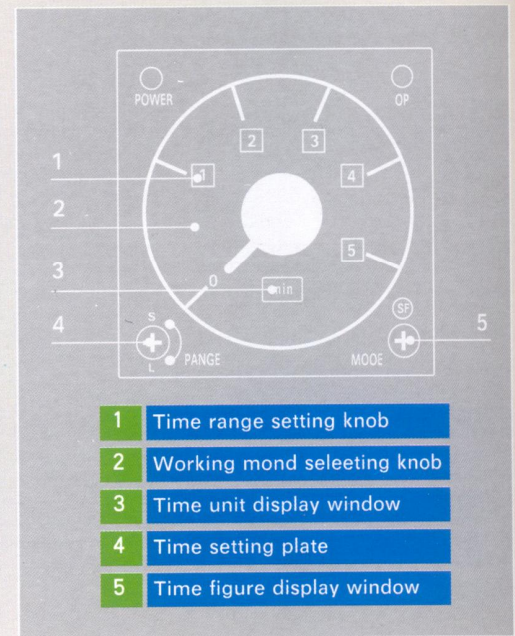
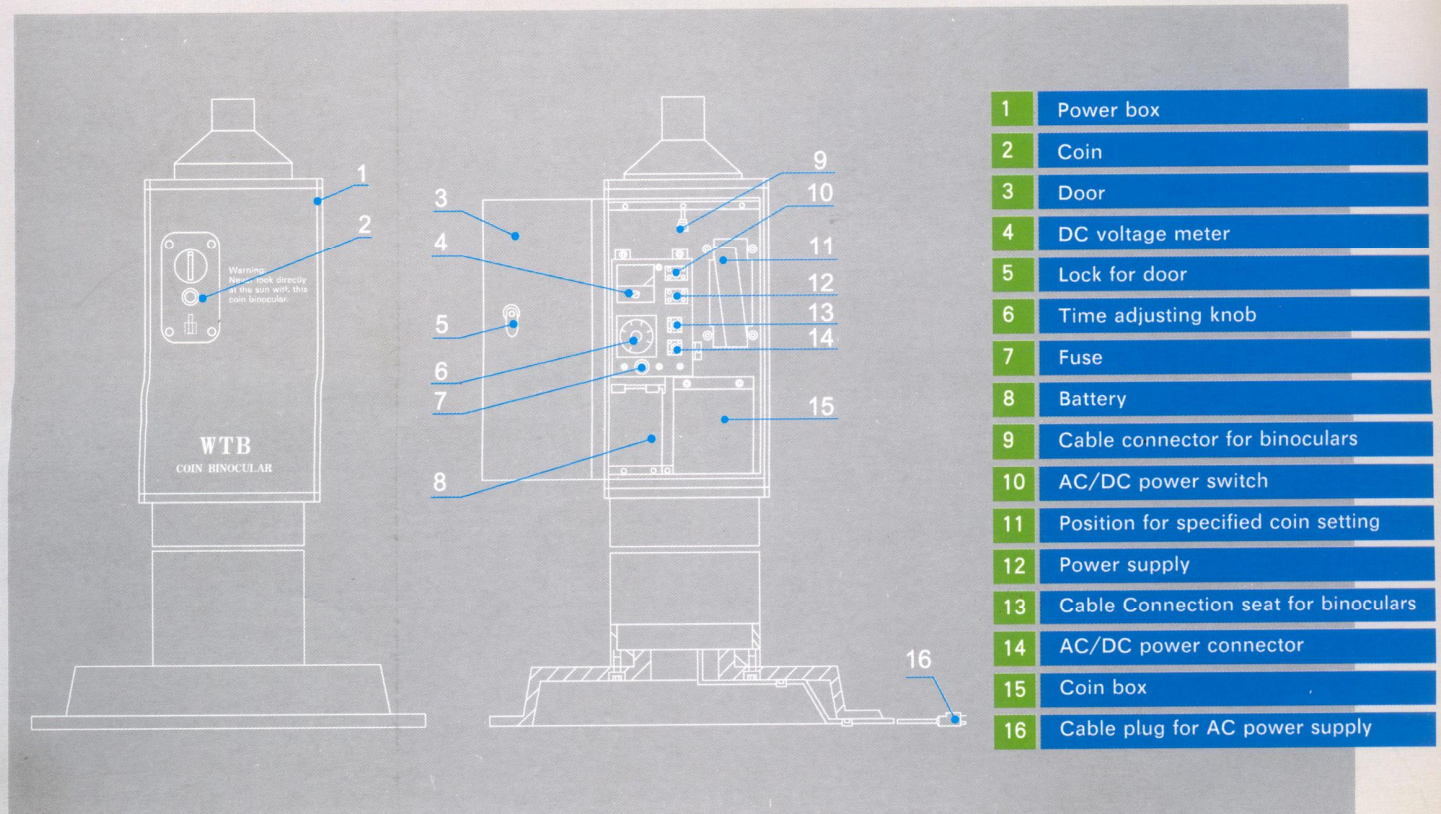

Fig.4
Fig.3
- d) Insert No.2 into No.13 (socket for cable of the binoculars) in Fig.3, then tighten it clockwise. The erection of the binoculars is completed.
### 2.2.1 Electrical unit (see Fig. 3)
The binoculars are provided with a special rechargeable battery (see No.8 in Figure3).
### 2.2.3 Setting of specified coin (it has to be done with power supply switched off) as shown in Fig.3
### 2.2.7 Setting of long controlling time (see Fig.4)
When the product leaves the factory, the controlling time is already set in the rang of 0—5min. The customer can make choice within thie range. If the customer needs longer time, he can reset the controlling time with reference to Fig.4 (No.6 in Fig.3). The procedure is as follows:
- 3.6 If the binoculars do not work, No.12 (switch of power supply) in Fig .3 should be set in "OFF" position.
- 3.7.1 If the binoculars do not work when AC and DC power supply is turned on respectively, in case of AC power supply, check No.16 (cable of AC power supply) in Fig.3 for good contact at the connection of the plug. In case of DC power supply, check No.8 (the service fee battery) in Fig.3 to see if the electrode is connected firmly to the plug, Check No.12 (switch of power supply) and No.10 (switch for AC/DC power supply) in Fig.3 and see if they meet the requirement of operation.
- 3.7.2 If the binoculars work properly with AC power supply, but do not work properly with DC power supply, check No. 10 (switch for AC/DC power supply) in Fig.3 for proper switching. Check the voltage of No.8 (the service fee battery). If the voltage is lower than 10.5VDC,the battery must be replaced and recharged.
If the binoculars work properly with DC power supply, but do not work properly with AC power supply, check No. 16 (cable of AC power supply) for good contact and see if the voltage meets the requirement. Check No.10 (switch for AC/DC power supply) in Fig. 3 for proper switching. Check NO. 7 (the fuse) and see if it is fitted or damaged. If the fuse is damaged, replace it with spare fuse.
- 3.7.3 If the coin can't enter No. 15 (coin box) shown in Fig. 3 and is rejected, check if the specified coin is set and the coin used is coincident with the specified one, check if the voltage indicated on No. 4 is lower than 10.5V.